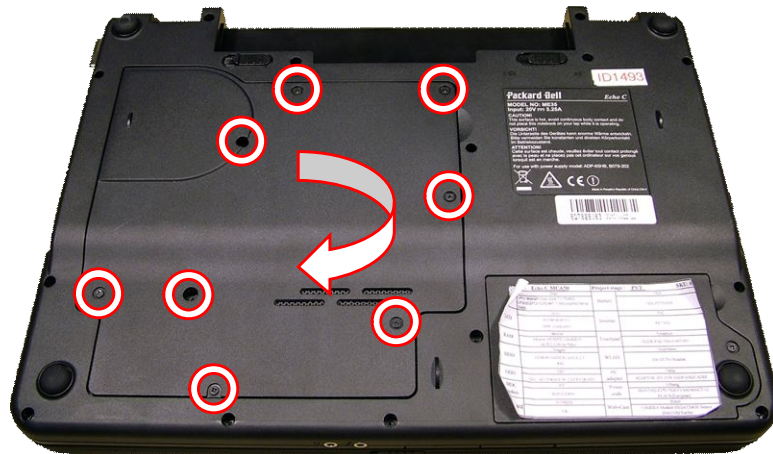

Fig. 5 Removing memory compartment cover.
1. Remove the 8 screws securing the wireless LAN compartment cover and remove the cover (see Fig. 5).
1. Remove the 8 screws securing the CPU compartment cover (see Fig. 5).